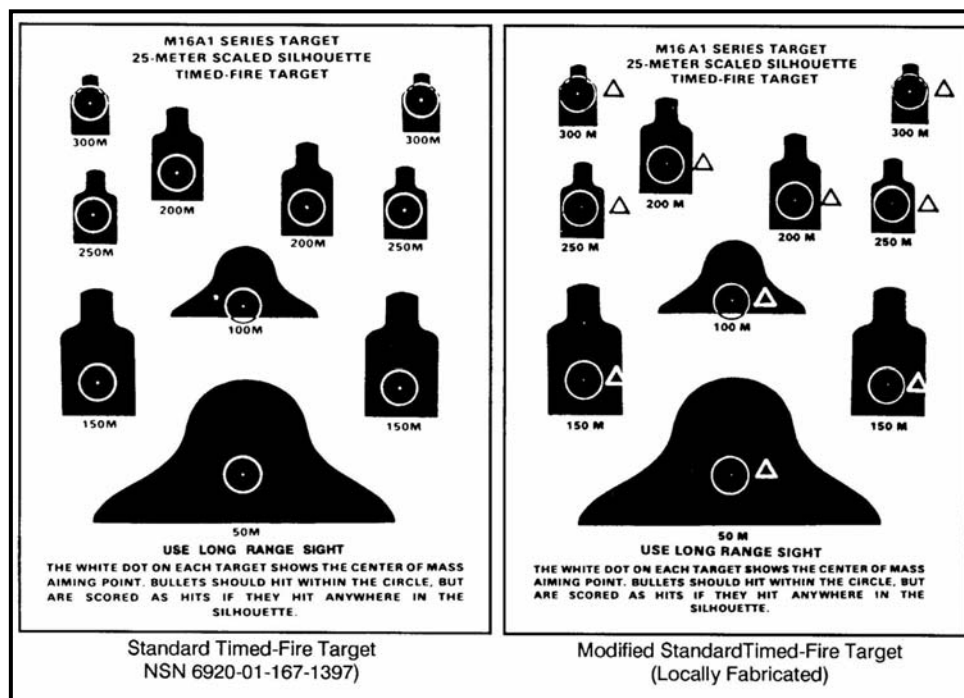

Figure 7-32. Timed-fire targets.
b. Trapping is the setting up of an aiming point forward of the target and along the target path. The trigger is squeezed as the target comes into the sights. This is a technique that works on targets with slow lateral movement. It does not require tracking skills. It does require that the firer know precisely when the rifle is going to fire. Some soldiers can squeeze the trigger without reacting to the rifle firing, and they may fire better using this technique. Another technique is to use a modified 25-meter scaled timed-fire silhouette (Figure 7-32, page 7-36). Trainers evaluate performance based on where shot groups are placed when the lead rule is applied. This target can be used for both the M16-series rifles, and the M4 carbine.